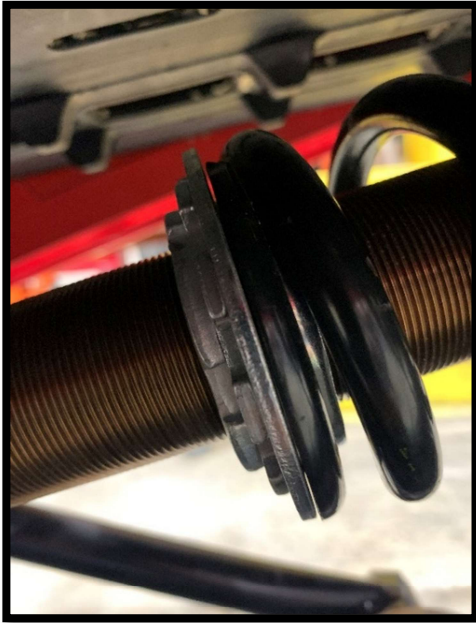

fig 1.4
*Note: Unless differences occur between left hand (LH) and right hand (RH) sides, the procedures are shown for only one side of the vehicle. Repeat for other side. Right and left sides are defined as when sitting on the vehicle.*
- 4.0 Measure the position of suspension stopper. (fig 1.4)